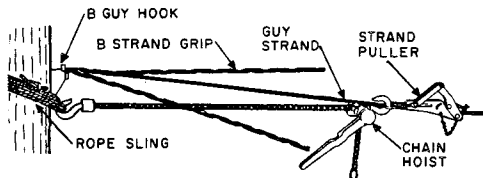

Fig. 23—Pole-to-Stub Installation
4.06 At pole-to-stub locations install a B or C fabric sling or rope sling, strand puller, and chain hoist, as shown in Fig. 23, at the location where the guy will be tensioned, and proceed as outlined in 4.04.